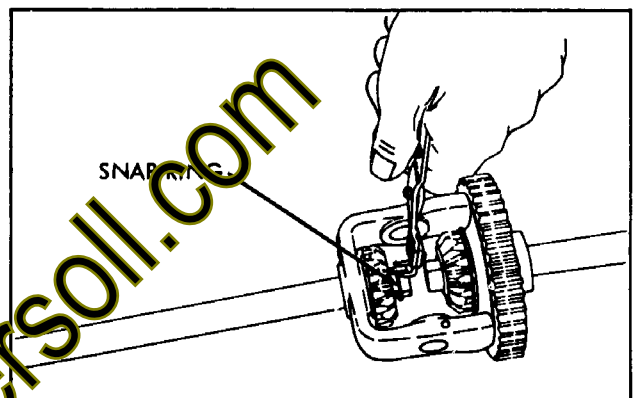

Figure 4-4
- d. Remove snap ring, bevel gear and thrust washer. Slide axle out. See Figure 4-4.
- b. Place bevel gears on the shaft and install snap ring in groove on the shaft. See Figure 4-4.